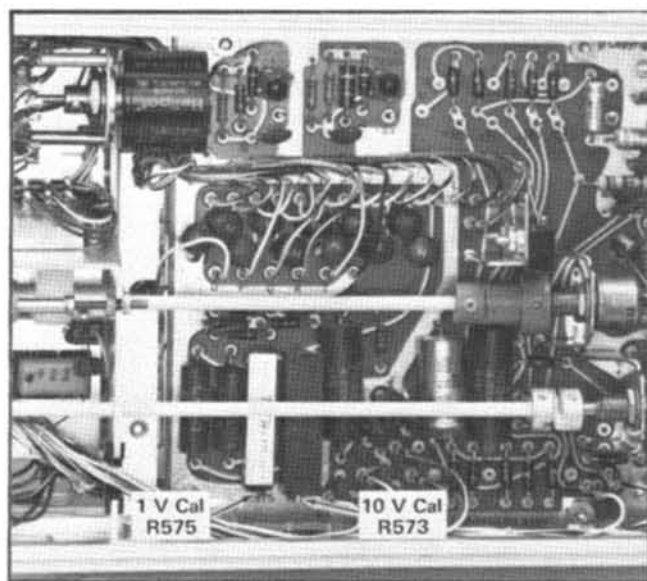

Fig. 5-27. Comparison Voltage adjustment locations on the Output board.
- i. ADJUST—10 V Cal control R573 (see Fig. 5-27) to obtain a null indication on the Precision DC Voltmeter. Simultaneously set the Type 7A13 and Precision DC Voltmeter Polarity switches to +. Repeat steps 27e through 27i. If necessary,
28. Check/Adjust 1-Volt Calibration **①**
g. ADJUST—1 V Cal control R575 (see Fig. 5-27) to obtain a null indication on the Precision DC Voltmeter. Simultaneously set the Type 7A13 and Precision DC Voltmeter Polarity switches to $-$. Repeat steps 28d through 28g. If necessary readjust R575 to obtain a compromise setting between the $+$ and $-$ Polarity null indications.